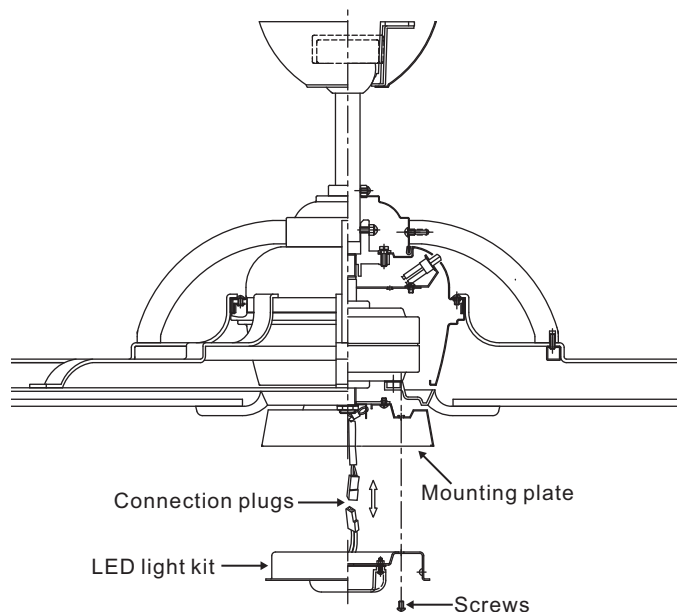

Figure 17
Step 1. Remove the 1 of 3 screws from the mounting plate and keep it for future use. Loosen the other 2 screws (Do not remove) (Fig. 17)